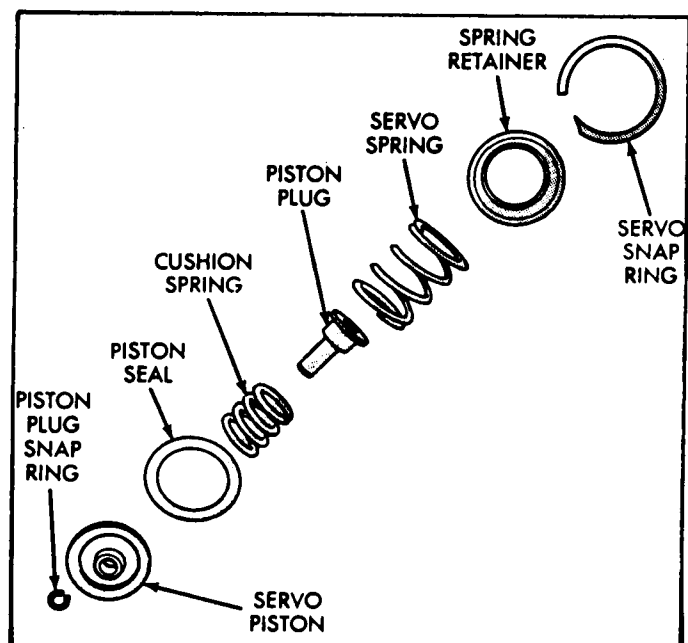

Figure 38
22. Assemble reverse servo piston plug, the cushion spring and piston, as shown in Figure 38. Lubricate with fluid.